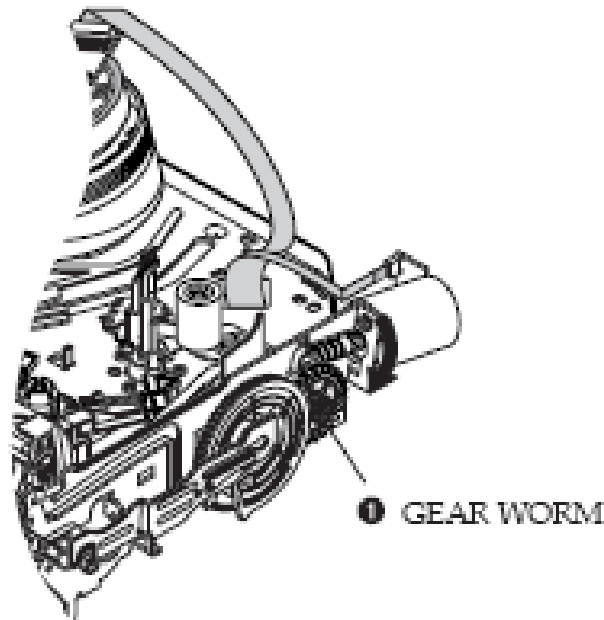

Fig.3-42
- 3) Rotate Gear Worm ❶ clockwise using screw driver again up to the state of eject mode and then pick out the tape.(Refer to Fig.3-42)